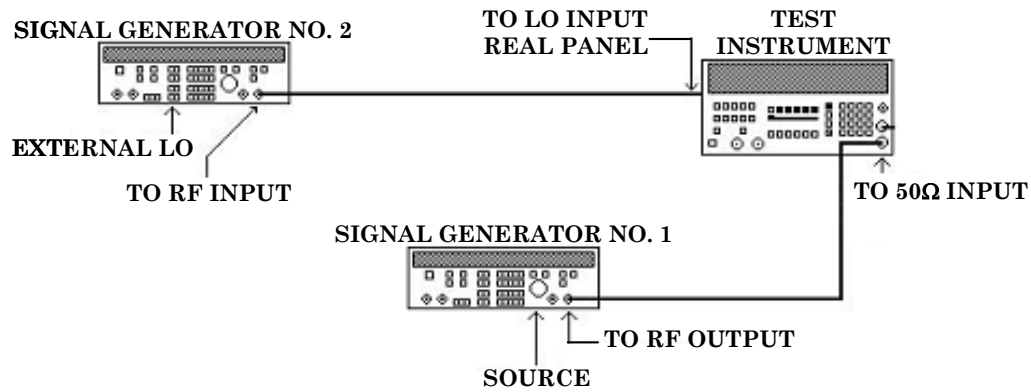

Figure 19. High select filters – equipment connection.
(11) TI display will be  $\leq -30$  dB.
(12) Decrease signal generator No. 1 frequency by 3 kHz.
(13) TI display will be  $\leq -80$  dB.
(14) Tune signal generator No. 1 up until TI indicates 0 dB, and then continue on until TI indicates  $-6.00$  dB.
(15) Record signal generator No. 1 frequency as Freq. #2.
(16) Subtract Freq. #1 from Freq. #2. The difference should be between 12.4 and 16.9 kHz.
(17) Increase signal generator No. 1 frequency 18.5 kHz above frequency recorded as Freq. #1.
(18) TI display will be  $\leq -30$  dB.
(19) Increase signal generator No. 1 frequency by 3 kHz.
(20) TI display will be  $\leq -80$  dB.
(21) Connect equipment as shown in figure 19 below.
(22) Set signal generator No. 1 for a frequency output of 800 MHz at a level of 0 dB.
(23) Set signal generator No. 2 for a frequency output of 800.455 MHz at a level of 0 dB.